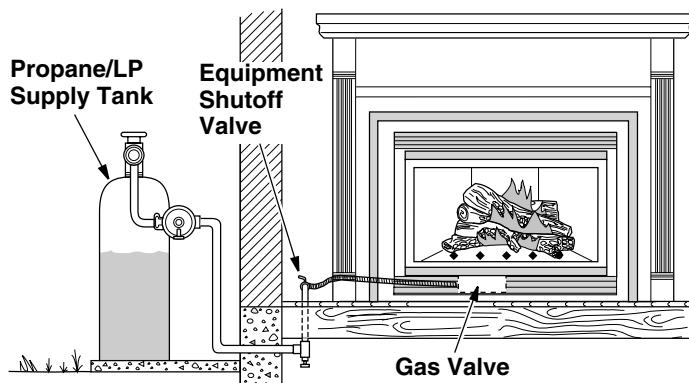
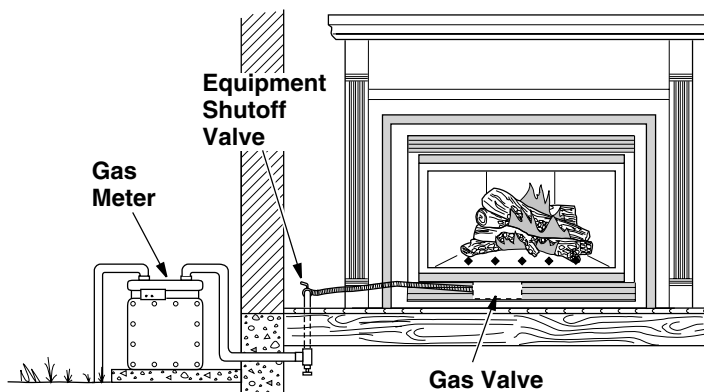

Figure 26 - Checking Gas Joints for Propane/LP Gas Fireplace
Figure 27 - Checking Gas Joints for Natural Gas Fireplace
4. Check all joints from propane/LP supply tank or gas meter to equipment shutoff valve (see **Figure 26** for propane/LP or **Figure 27** for natural gas). Apply noncorrosive leak detection fluid to all joints. Bubbles forming show a leak. Correct all leaks at once.
3. Check all joints from equipment shutoff valve to gas valve (see **Figure 26** for propane/LP or **Figure 27** for natural gas). Apply noncorrosive leak detection fluid to all joints. Bubbles formed show a leak. Correct all leaks at once.